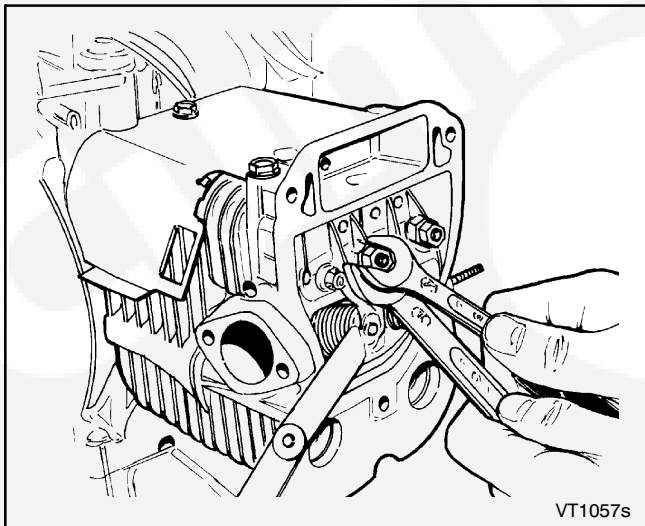

FIGURE 10-12. VALVE LASH ADJUSTMENT
3. Clearances are shown in the Specifications section. For each valve, the gauge should just pass between the top of the valve stem and the rocker arm. (see Figure 10-12).